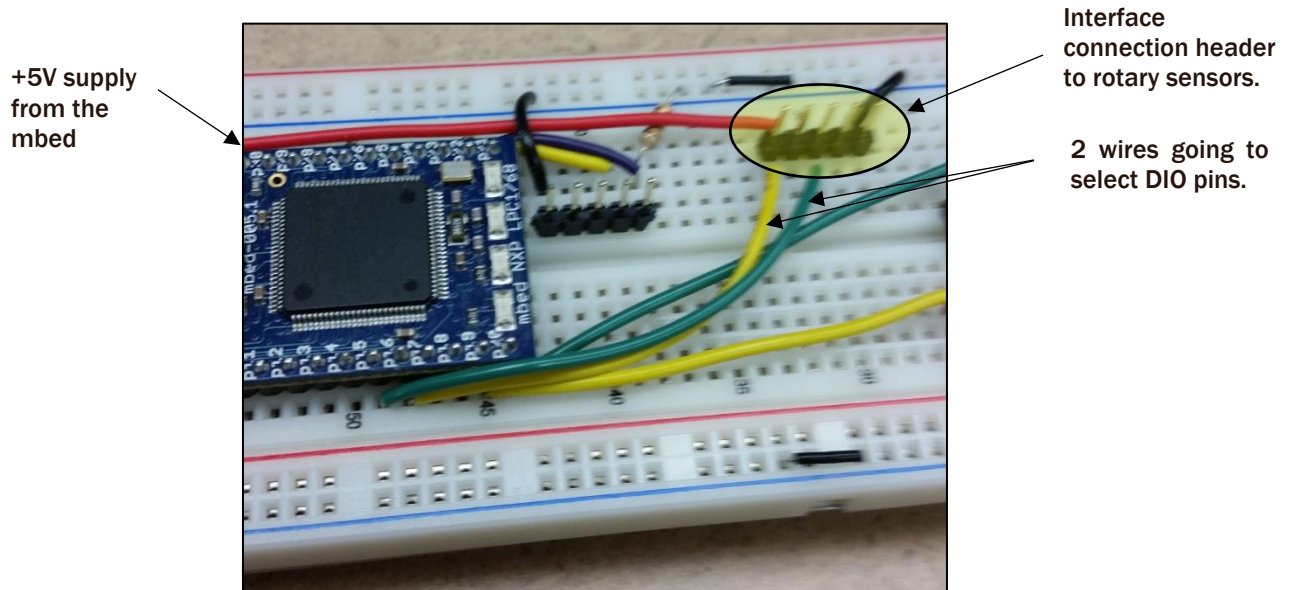

Figure 2: Connection to mBed
As mentioned above, the sensor utilizes four wires. Shown in Figure 2 is a FIVE pin male header (there will be one no connect (NC) pin within that bundle) that connects the mBed processor with the rotary sensor.